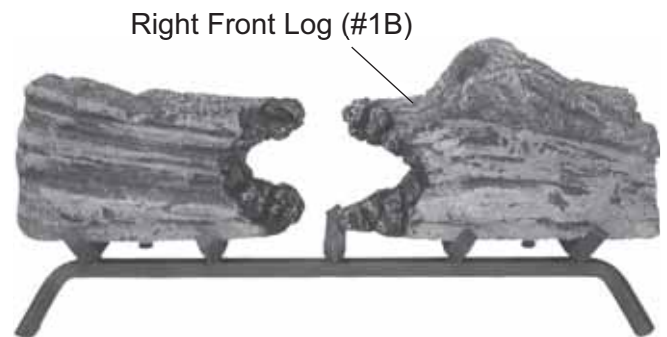

Figure 104 - Placing Right Front Log (#1B) on grate
3. Place Right Front Log #1B on front right of the grate. *See Figure 104.*